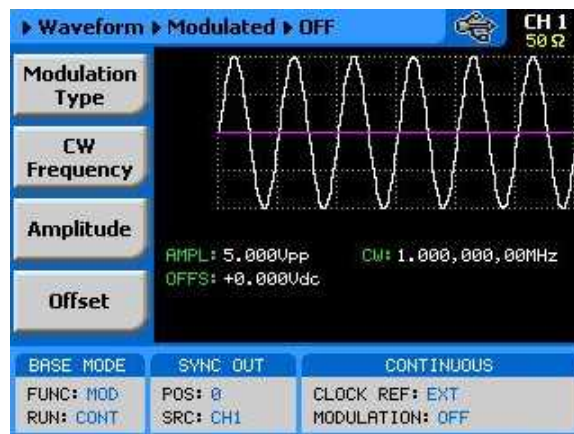

Figure 3-22, Modulation OFF Parameters
The Modulation Off is a special case of the modulation function where the output is not modulated but generates carrier waveform (CW) frequency only. CW is the sine waveform that is being modulated. When placed in Modulation Off, the sine waveform is generated from the main outputs continuously. The advantage of this mode is that sine waveforms can be generated from 100 μ Hz to 100 MHz. Modulation off operates in continuous mode only. The CW parameter does not change when you switch from one modulation function to another. Figure 3-22 shows the Modulation Off menus.